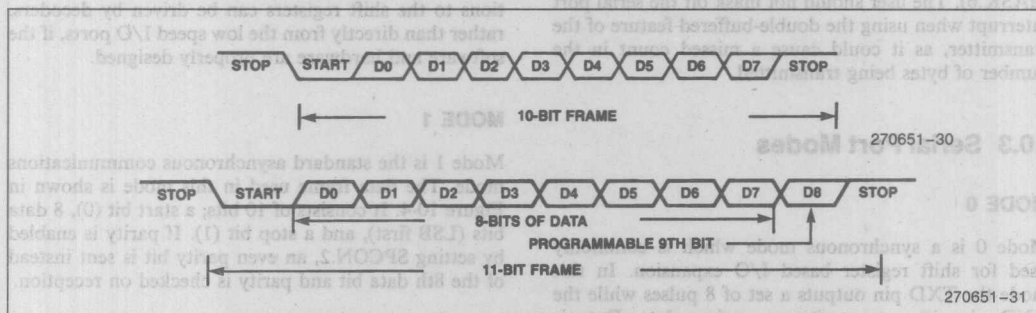

Figure 10-4. Serial Port Frames, Mode 1, 2, and 3
Mode 1 is the standard asynchronous communications mode. The data frame used in this mode is shown in Figure 10-4. It consists of 10 bits; a start bit (0), 8 data bits (LSB first), and a stop bit (1). If parity is enabled by setting SPCON.2, an even parity bit is sent instead of the 8th data bit and parity is checked on reception.
Mode 2 is the asynchronous 9th bit recognition mode. This mode is commonly used with Mode 3 for multiprocessor communications. Figure 10-4 shows the data frame used in this mode. It consists of a start bit (0), 9 data bits (LSB first), and a stop bit (1). When transmitting, the 9th bit can be set to a one by setting the TB8 bit in the control register before writing to SBUF (TX). The TB8 bit is cleared on every transmission, so it must be set prior to writing to SBUF (TX). During reception, the serial port interrupt and the Receive Interrupt (RI) bit will not be set unless the 9th bit being received is set. This provides an easy way to have selective reception on a data link. Parity cannot be enabled in this mode.